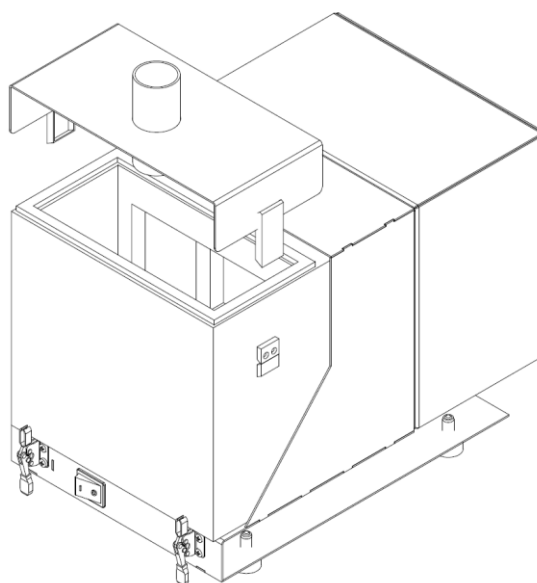

Fig. 109 Removing the top filter cover
6. Remove the top filter cover and set it aside (Fig. 109).